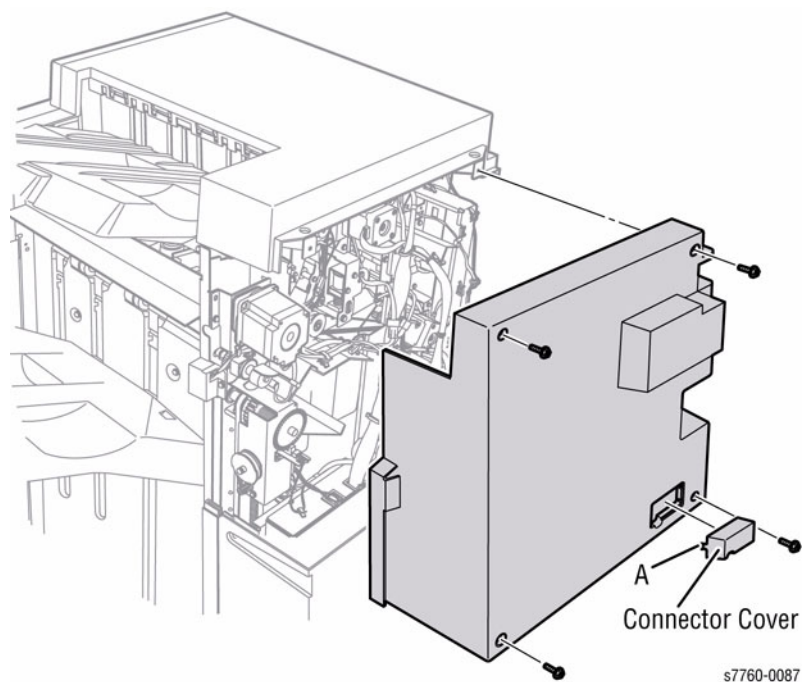

Figure 1 Removing Rear Upper Cover
4. Lift the Cover up and slide it out (Figure 1).